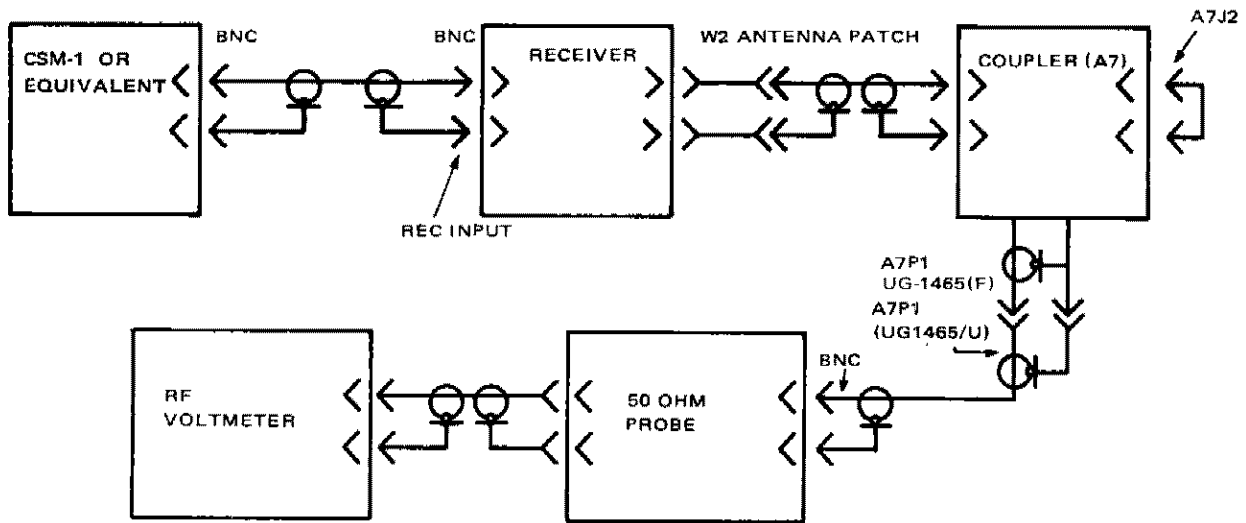

Figure 7-2. Test Setup for Antenna Coupler A7
**7.14.1 Antenna Coupler A7 Performance Test.**- Figure 7-2 shows the test setup.
**7.14.1.2 Procedure (VHF).**- Connect equipment as shown in figure 7-2 and proceed as follows:
7.14.1.3 Procedure (UHF).- Connect test equipment as shown in figure 7-2 and proceed as follows: